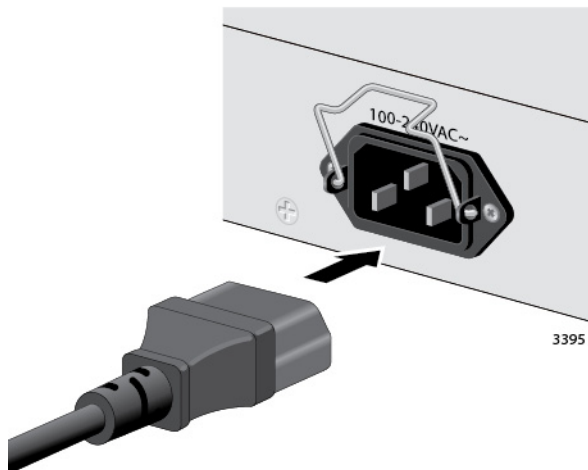

Figure 28. Plugging in the AC Power Cord
3. Connect the power cord to the connector. See Figure 28.